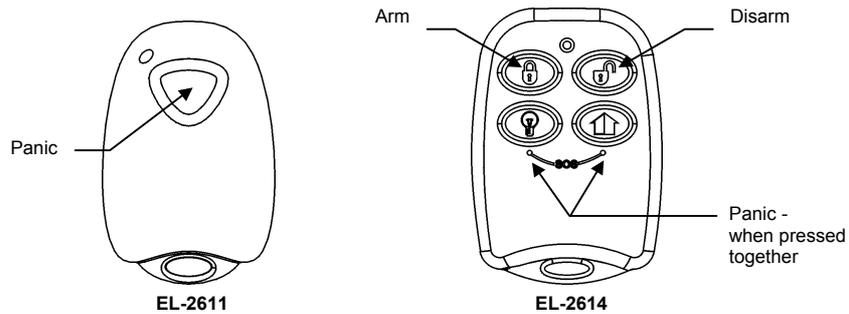

Figure 7: Keyfob Button Assignments
The EL-2648 supports two types of keyfob transmitter, EL-2611 and EL-2614. You can register up to 16 keyfobs to the stand-alone receiver. Figure 7 illustrates these transmitters and the functions assigned to their buttons.
- **PANIC** – The output reacts to panic transmissions from 1-button keyfobs or SOS transmissions from 4-button keyfobs - see *Figure 7: Keyfob Button Assignments*.